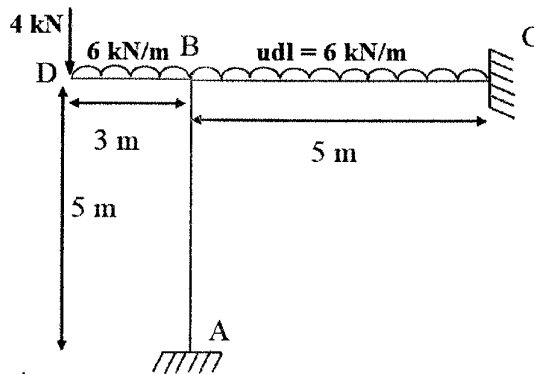

Figure Q3b
- (iii) **Figure Q3b** shows the loading arrangement in ABCD frame. Point A and Point C of the frame are fixed and Beam BD is a cantilever.